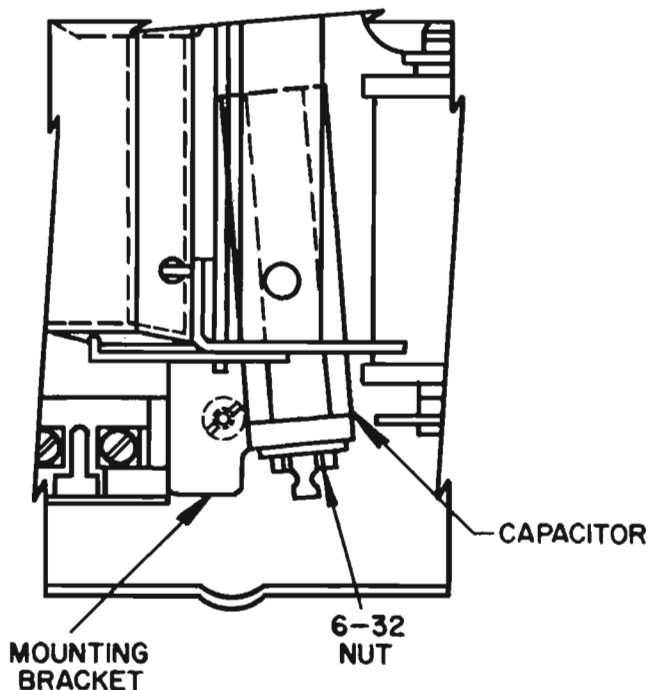

Figure 2. Method of Mounting 1 μ fd. Capacitor When Modifying Type 80T Telephone Set With D-38362-A Network.
- (2) Terminate the white capacitor lead on terminal 6.
- (3) Terminate the red ringer lead on terminal 7.
- (4) Terminate the green hookswitch lead on terminal 9.
- (5) Remove the right-hand mounting block, located between the network and the ringer volume control slot and held in place by a screw beneath the base.
- (6) Mount a D-68563-A capacitor (1 μ fd., can-type) onto a D-731517-A mounting block, using a D-7700-A hex nut (6-32), and solder a black spade-terminated lead to each of its terminals.
- (7) Install the capacitor assembly behind the network as shown in Figure 2, securing the capacitor-bracket mounting block to the base in place of the plain mounting block removed in step (5), and fastening it to the base with the original screw.